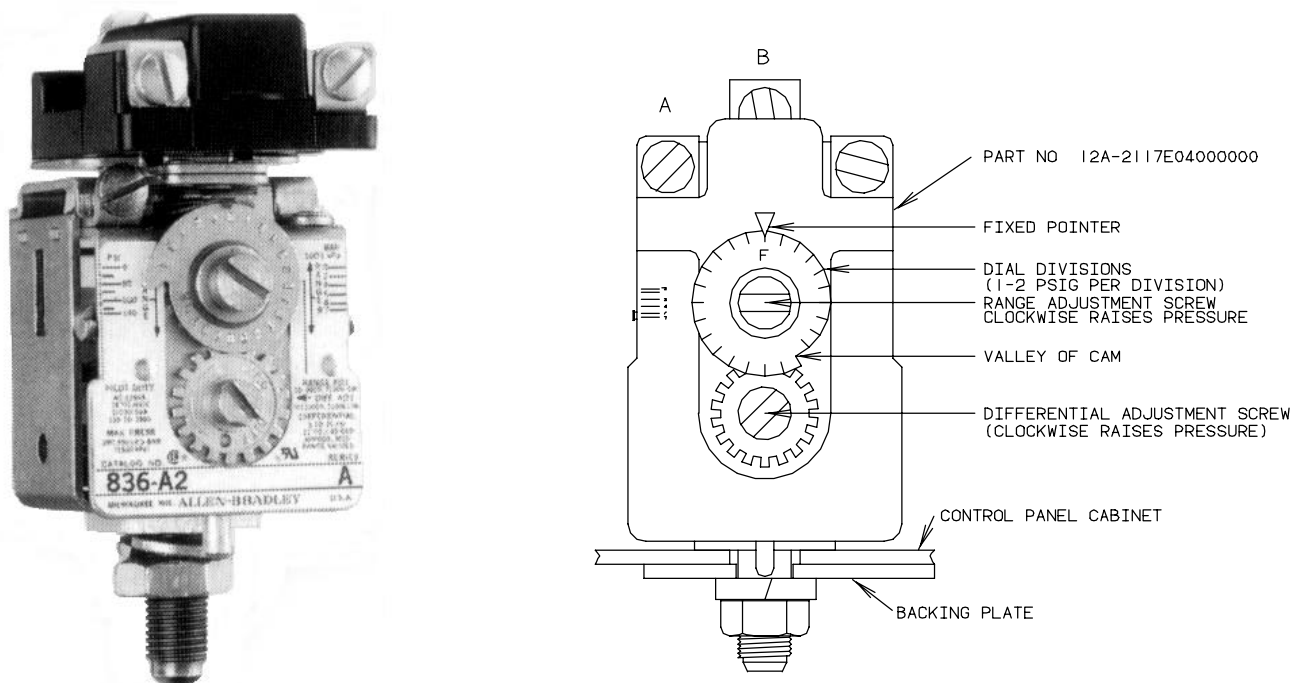

FIGURE 9-1
Freezer pressure switch setting too low.	Adjust freezer pressure switch, or replace if defective. See FIGURE 9-1, Section 9.
Extended freeze period.	Check freezer pressure switch adjustment, see FIGURE 9-1, Section 9, (Freezer Pressure Switch) and TABLE 10-6, Section 10 (Operating Vitals).
1. Turn the bottom screw (differential) approximately 1/2 turn to the Left (counter clockwise). The pointer arrow, which is at the top middle of the switch, will be at the “F” setting. See FIGURE 9-1.
2. Turn the top screw (range adjustment) approximately 4 1/2 turns to the Left (counter clockwise). The pointer on the range setting will be between 40 psi and 50 psi. See FIGURE 9-1.
When crushed ice is produced, the freezer pressure switch (FPS) (FIGURE 9-1) should be set to produce ice having a wall thickness of approximately 3/16".